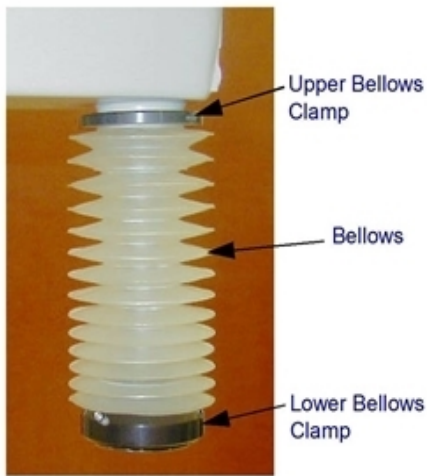

Figure 9-11. Bellows
1. Remove the lower bellows clamp by removing two M3 screws and pulling the clamp apart. See Figure 9-11.